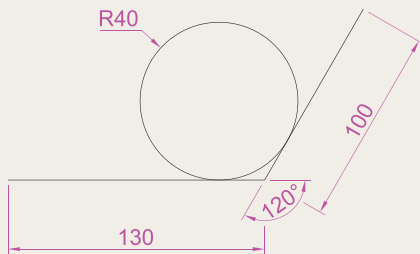

Fig. 2.33 Exercise 6
6. Using the **Line** tool construct the two lines at the length and angle as given in Fig. 2.33. Then, with the **Ttr** prompt of the **Circle** tool, add the circle as shown.